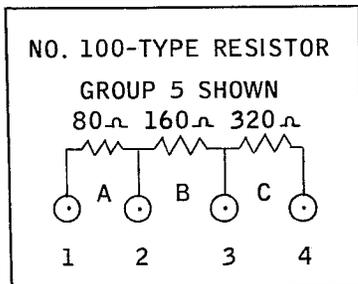

Fig. 4
2.03 Ceramic-Type Resistors for use on circuits (mainly teletype) which require a heat-dissipating-type resistor, are provided on equipment units covered by Drawing L-4705. These resistors are mounted on angle-bracket units suitable for mounting in 105-type apparatus boxes. Figure 4 shows a typical arrangement, and Table B, the various combinations.